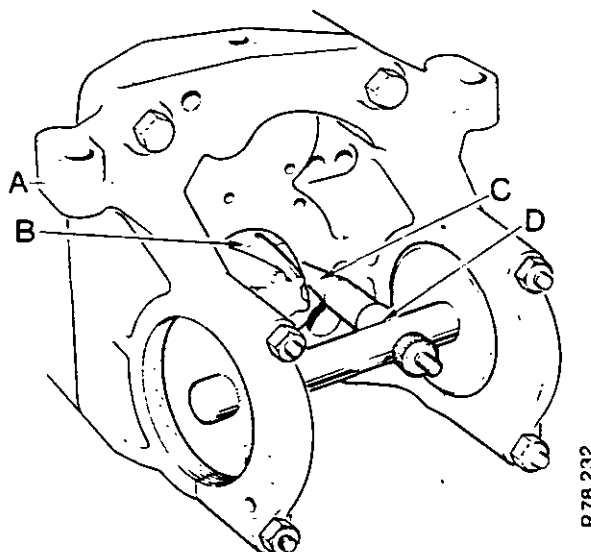

FIGURE 45 PINION SETTING DISTANCE
10. Install the tool onto the end plate with the dummy bearings in the end plate bores. Use bolts to fasten the bearing caps in position to hold the tool in place, see figure 45.